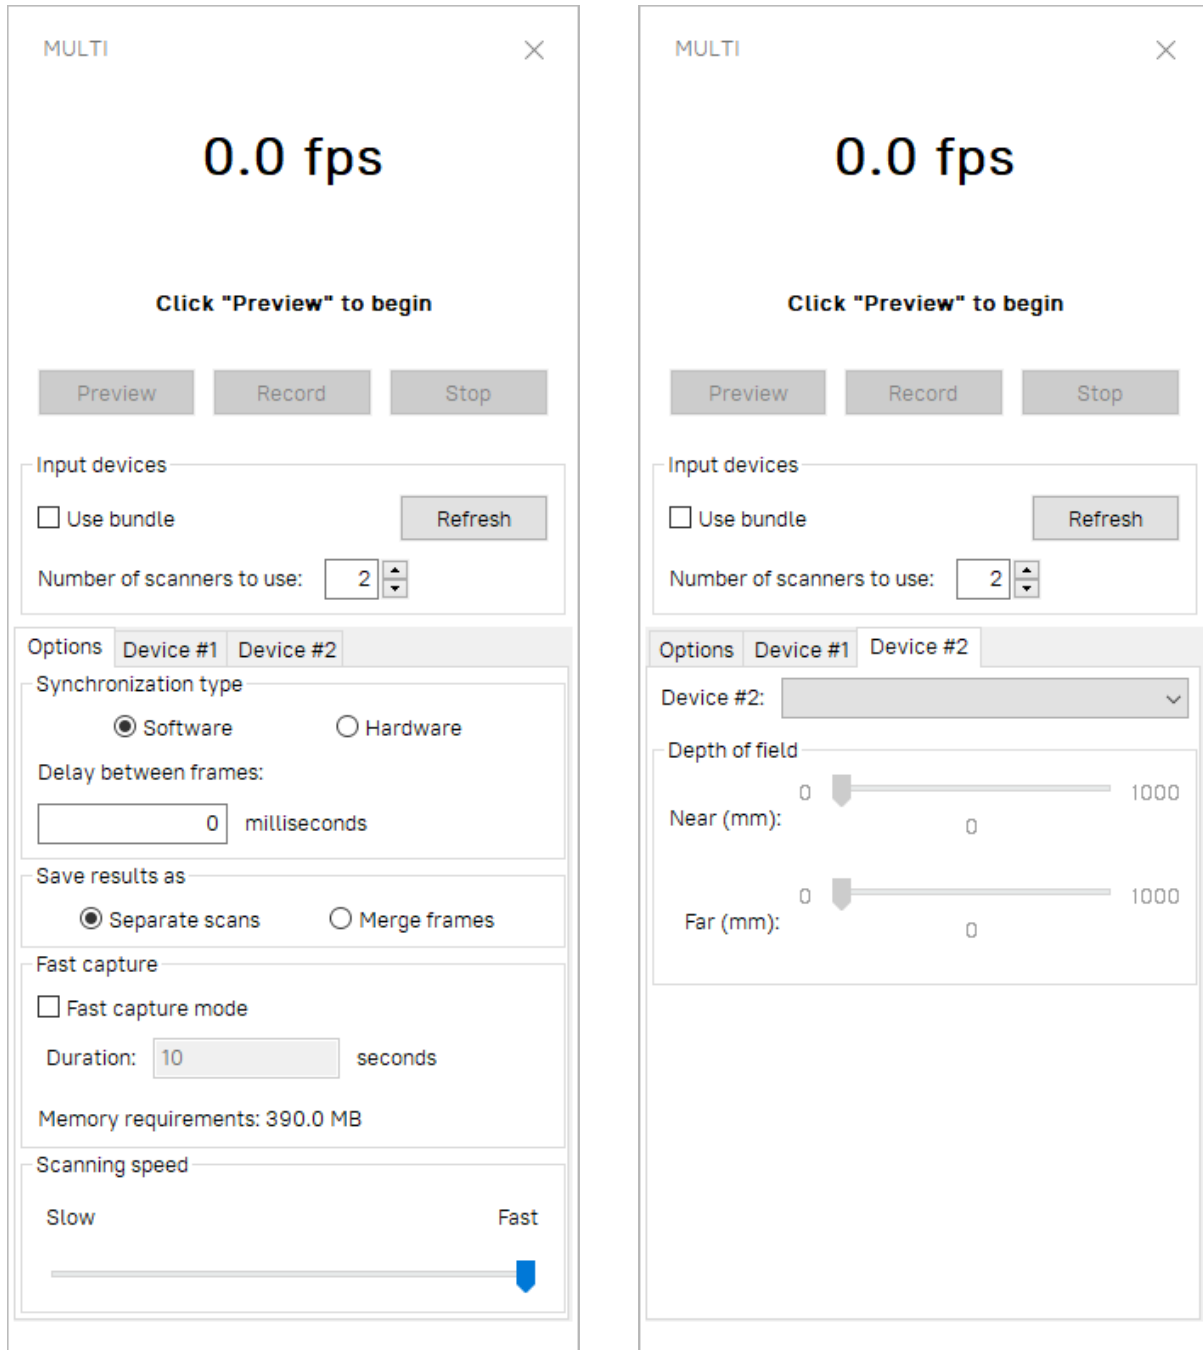

Figure 148: Multicapture panel: *Options* tab on left, *Device* tab on right.
1. Select *File* → *Multicapture (bundle)*. The panel will open (see Figure 148).
Sometimes, limiting the cameras' field of view is necessary (e.g., to cut off extraneous distant objects). Two sliders in the *Depth of field* area set the near and far scanning boundaries. The application sets work-area boundaries for each device independently in the device tabs (see Figure 148, right). By default, the minimum and maximum boundary values for the corresponding device type are set to the recommended range; we encourage you to avoid changing them. However, if you're using Artec L scanners or 3D sensors, it may become necessary. To change these values manually, mark the *Override default depth range* checkbox in the *Scan* tab of the *Settings* dialog and enter the appropriate values in the fields below.